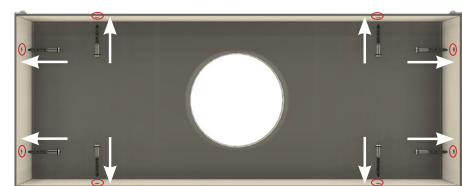

Figure 5
- Insert and tighten all screws into the pre-drilled holes on the Hood body until it is securely mounted to the wood hood. **(Figure 5)**